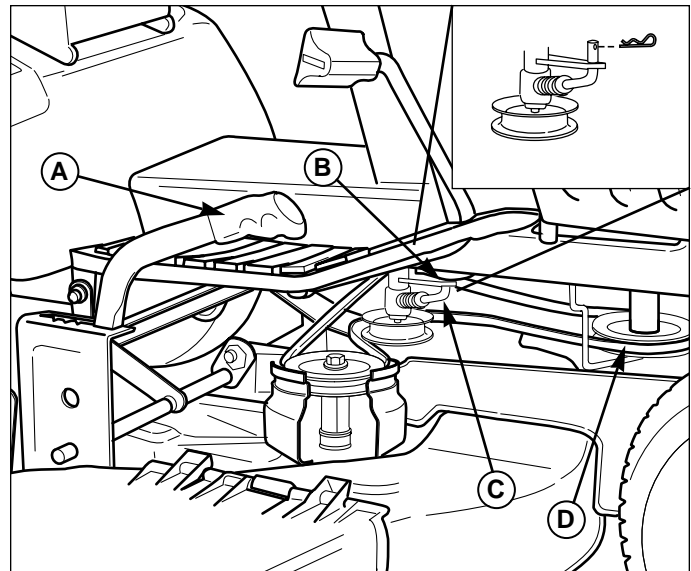

Figure 4. Mower Deck - Right Side
2. Place mower in the lowest cutting position using the mower height adjustment lever (A, Figure 4).
3. Remove the mower belt from the engine pulley (D, Figure 4) by flexing the engine belt guide rearward slightly, and pulling the belt off the pulley.
4. Remove the hair pin clip from the clutch rod (C, Figure 4).
5. Remove the clutch rod (C, Figure 4) from the bottom of the PTO lever (B). Reinstall the hair pin clip removed in the previous step.
8. Connect the clutch rod (C, Figure 4) to the bottom of the PTO lever (B). Secure using a hair pin clip.